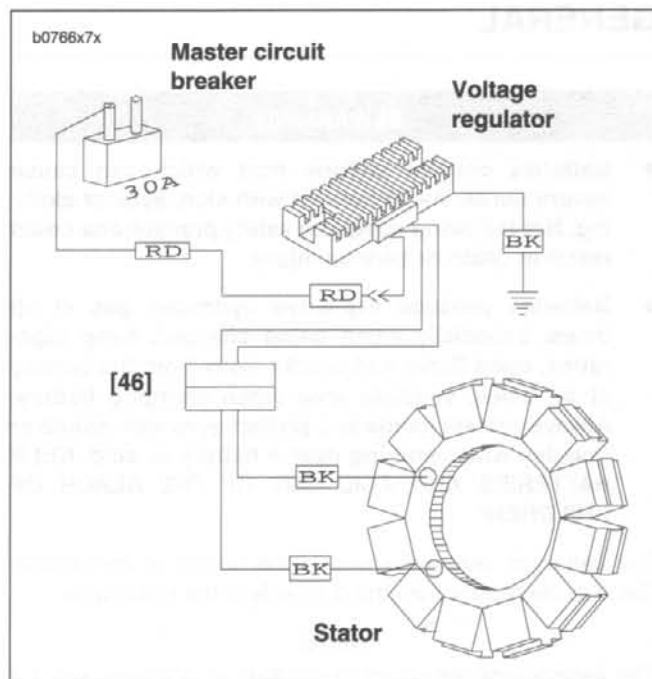

Figure 7-27. Voltage Regulator Connector [46]
2. See Figure 7-27. Locate voltage regulator connector [46] near the oil pump. Disconnect from alternator stator wiring. Cut cable straps if necessary.
4. Remove screws (1), washers (2) and lockwasher (4).
5. Remove and discard voltage regulator (3).
6. If necessary, detach mounting bracket (5) by removing screws, washers and nuts.